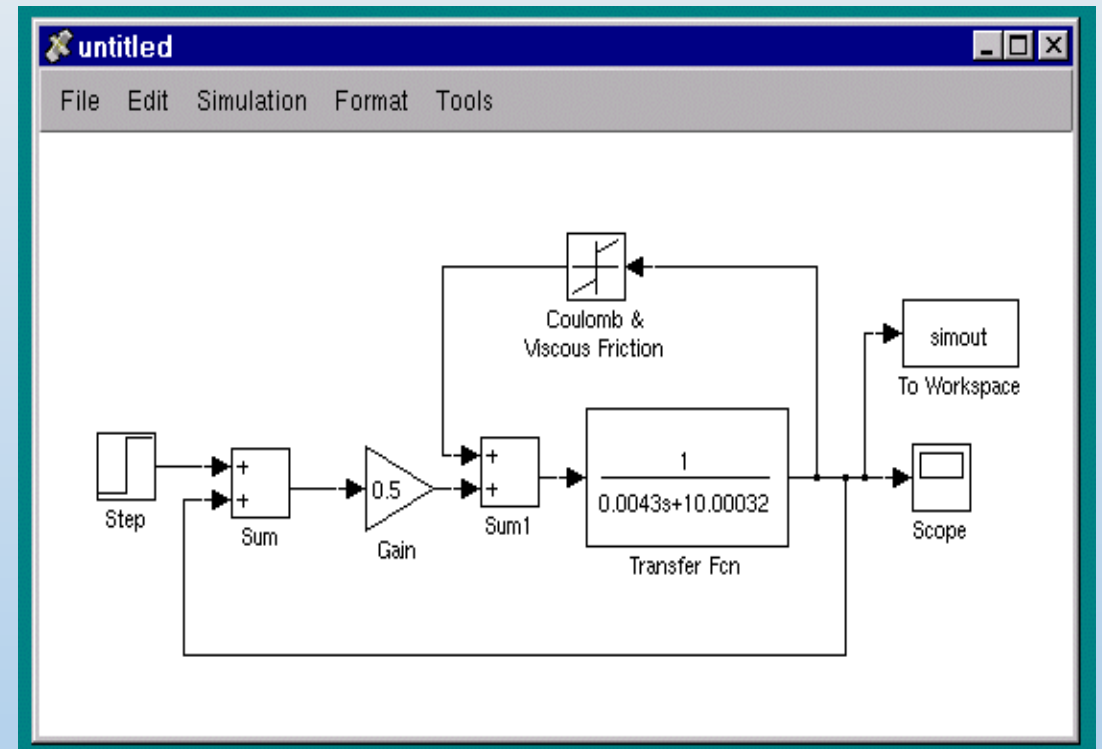

Fig. 9
- The completed SIMULINK model of the torque controlled DC motor should look like what is shown in Fig. 9.